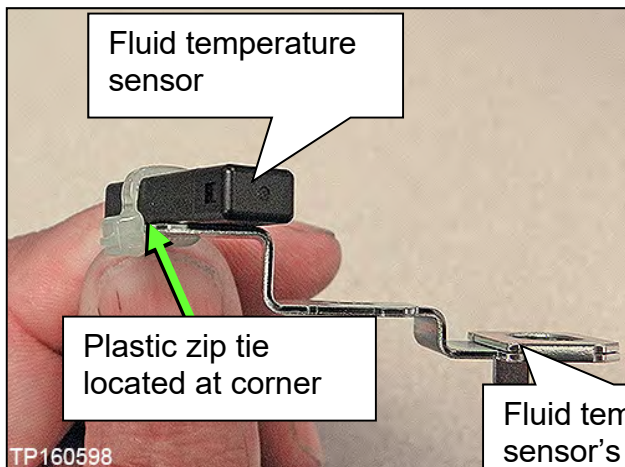
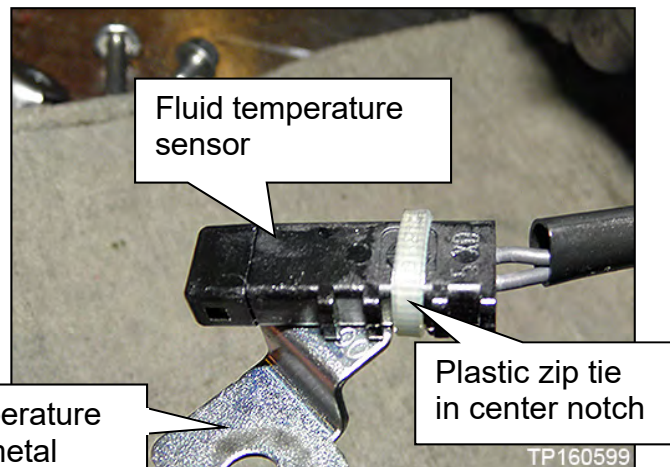

Figure 166
Figure 167
- a. Cut the old plastic zip tie with an appropriate tool to remove the fluid temperature sensor's metal bracket from the terminal harness assembly (Figure 166 and Figure 167).
- Secure the plastic zip tie at the center notch of three notches on the fluid temperature sensor (Figure 166).
- Tighten the plastic zip tie so that it is oriented as shown in Figure 167.